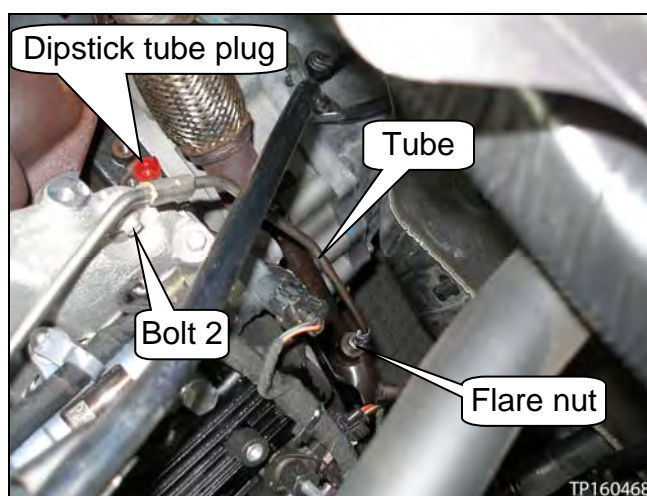

Figure 28
19. Remove the exhaust pressure sensor tube (see Figure 28 and 29).